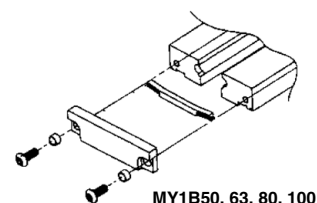

Fig. 2
- Fix the end cover assembly so that clearance between the end cover assembly and the cylinder tube is about 1 mm. In that case, a proper tightening torque of the hexagon socket button bolt is regulated by values shown in table. 2. Fix the opposite end cover as same way. (Fig. 2) In case of fixing the end cover, ensure that the spacer, stopper and parallel key are installed.